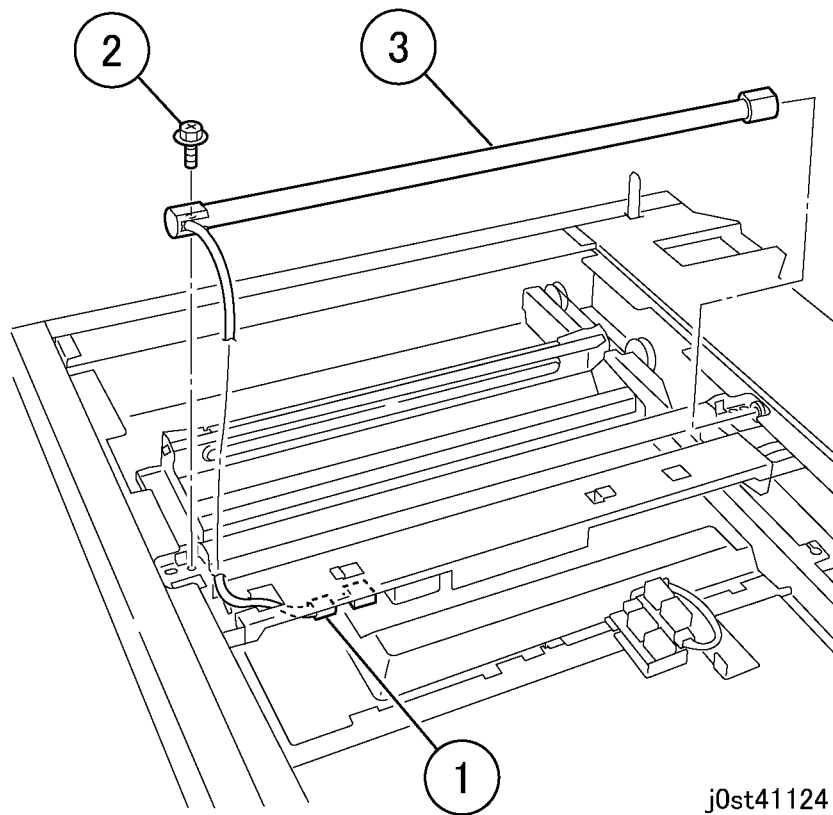

Figure 1 Removing the Exposure Lamp (j0st41124)
4. Remove the Exposure Lamp. (Figure 1)